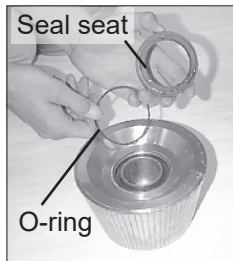

Figure 12
8. Gently pull the seal seat from the back of the rotor and remove the O-ring. (See Figure 12.)